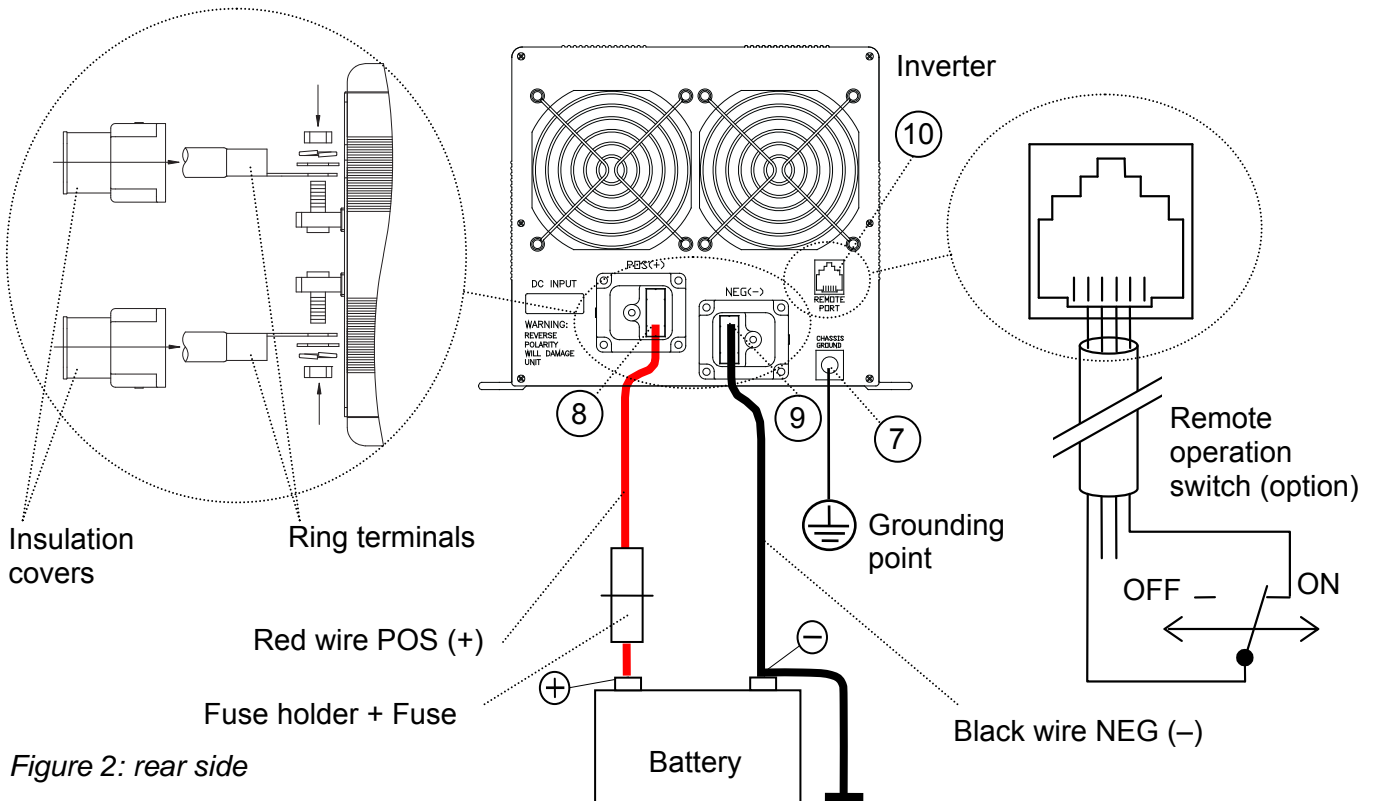

Figure 2: rear side
- The chassis ground terminal (see Figure 2, ref. 7) must be connected to the central grounding point of the vehicle/ ship
- The neutral conductor (N) of the AC output of the Inverter must be connected to the safety ground (PE/GND) and a ground fault circuit-interrupter (GFCI) must be integrated in the wiring of the AC output. See below for model specific information.
- Connect DC wiring as shown in figure 2: the black terminal (9) NEG (-) to the negative (-) pole of the power source / battery, the red terminal (8) POS (+) to the positive (+) pole of the power source/ battery. Integrate a DC fuse holder in the positive wiring, but do not place the fuse yet. Assemble the DC wiring exactly as indicated. Do not place anything between the ring terminal and the terminal surface. Make sure that all DC connections are tight. Recommended torque: 11.7-13 Nm / 104-115 InLbs.
- Chassis ground: Use a cable AWG8 / 6 mm² to connect the CHASSIS GROUND terminal (7) to the central ground.
- Remote operation switch (option). If you want to operate the Inverter on a remote location, you can install a switch as indicated in Figure 2. When the contact is closed, the Inverter is switched on.